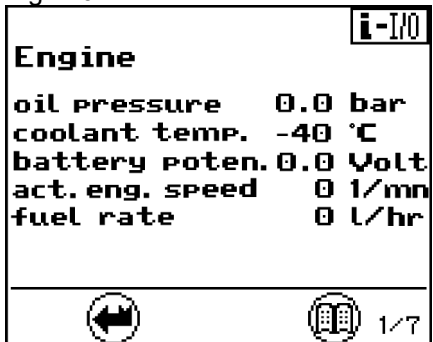

Fig. 11
a) Information about the engine, information screen Fig. 11.